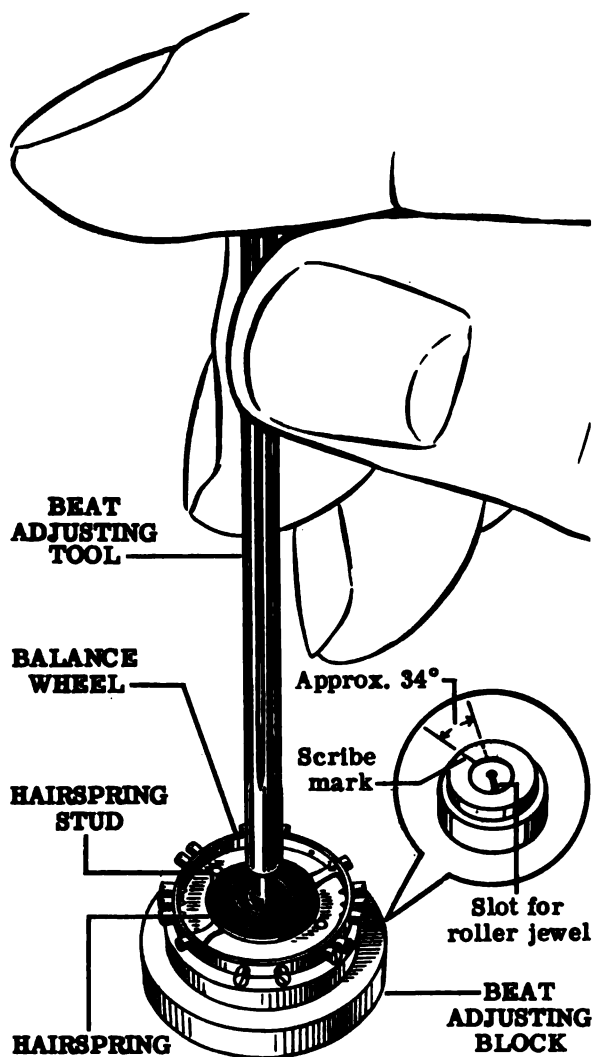

Figure 84
32. Place the balance wheel on the beat adjusting block (Tool No. 22A) and turn the collet with the beat adjusting tool (Tool No. 23A) so that the stud is in the position shown in Fig. 84.